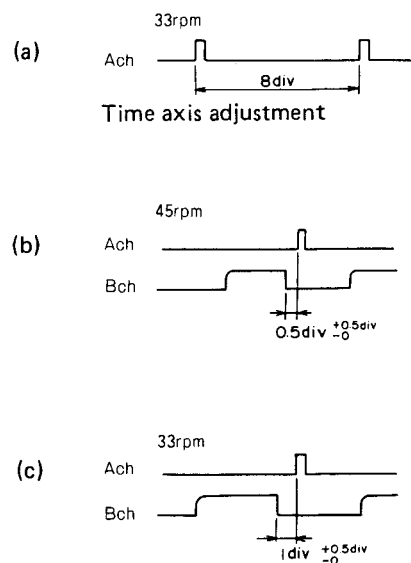

Fig. 12-2 Motor Operation Adjustment Waveforms
2. Connect the Ach of a dual trace oscilloscope to the circuit board unit, Q3 (PD0008) pin 15, and GND. Adjust the time axis so that 1 period of the output waveform is equal to 8 divisions in the 33 rpm mode. Fig. 12-2 (a).
3. Connect the Bch of a dual trace oscilloscope to Q1 (PA2017) pin 15, and GND. Adjust VR2 (45 rpm) so that the relation between the Ach and Bch waveforms in the 45 rpm mode is as shown in Fig. 12-2 (b).
4. Set the turntable to 33 rpm and adjust VR1 (33 rpm) so that the relation between the Ach and Bch waveforms are as shown in Fig. 12-2 (c).